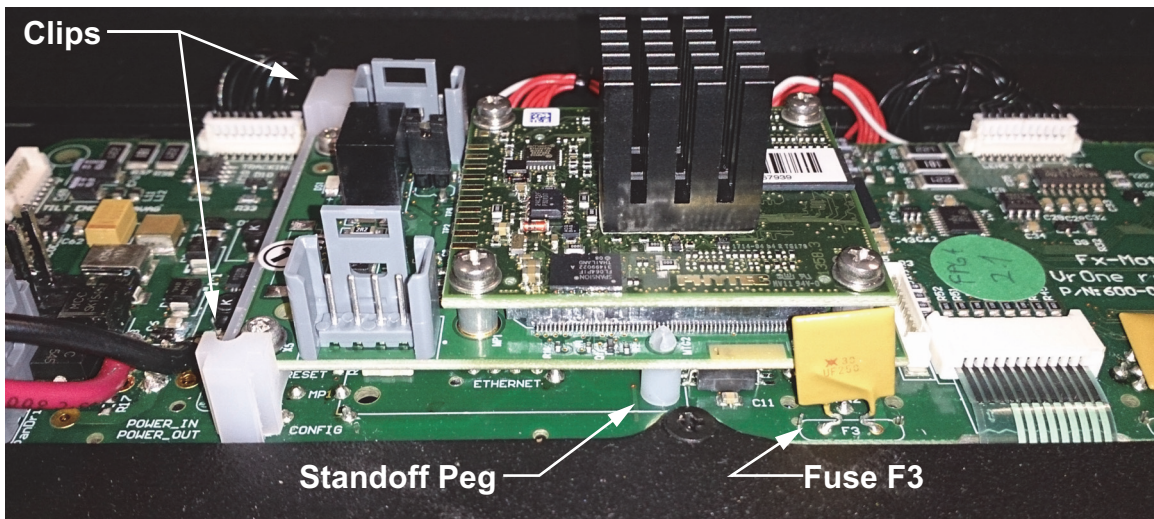

Figure 5 - New CPU Module (installed)
1. On the main circuit board, locate fuse **F3**, if present (see Figure 5).
- The new CPU module has two plastic standoff pegs that align with holes on the main circuit board. See Figure 5.